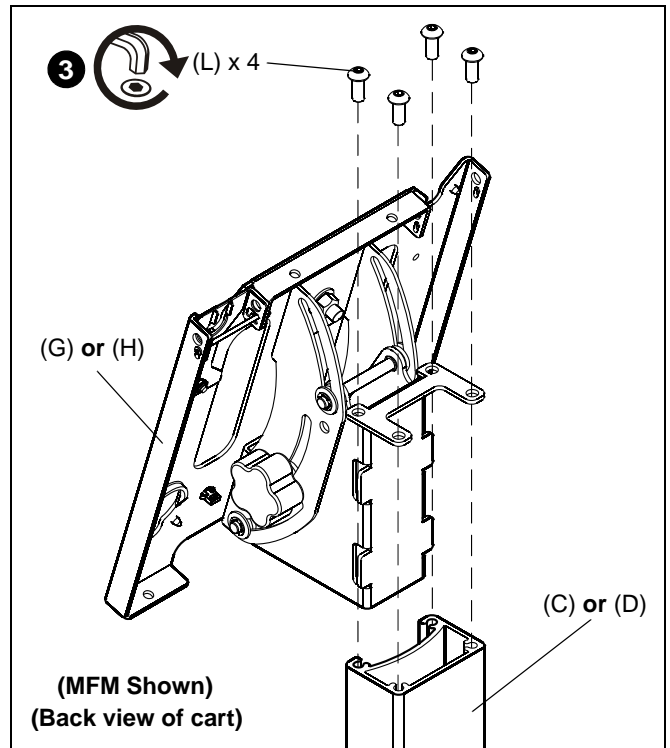

Figure 4
3. Attach head assembly (G) or (H) to the cart assembly using four 5/16-18 x 3/4" button head cap screws (L). (See Figure 4)